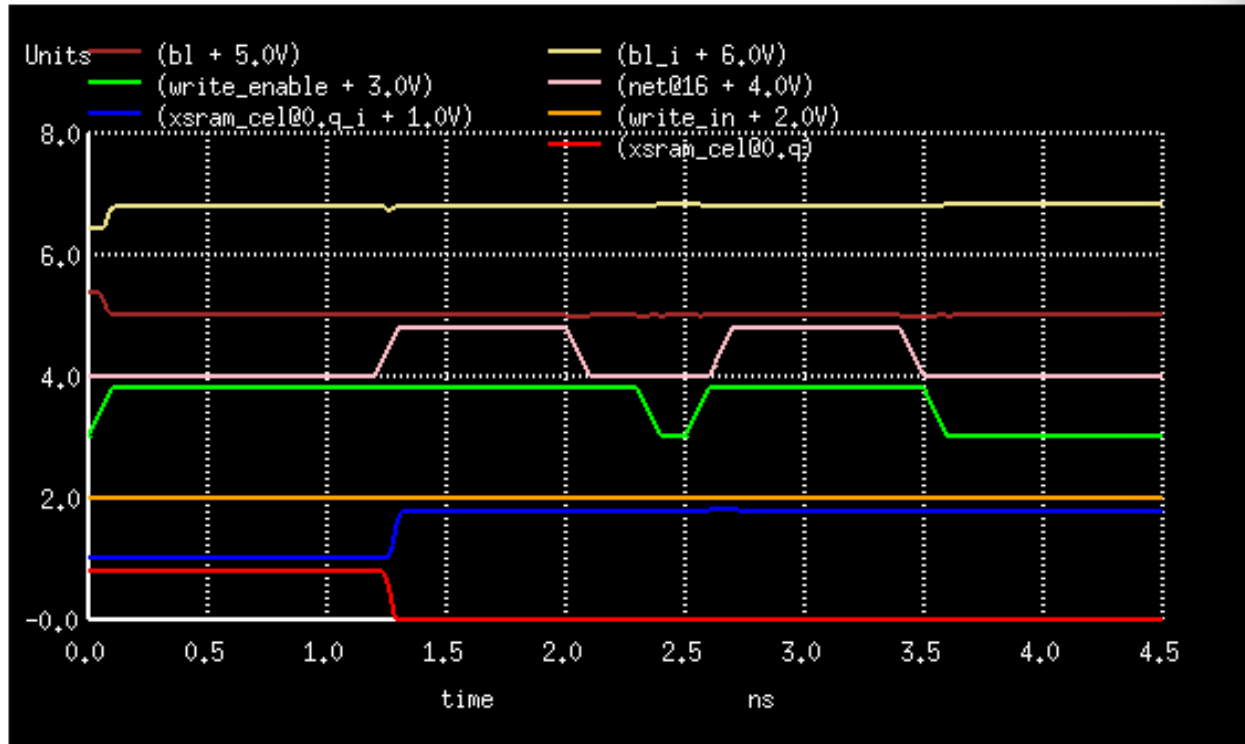

Figure 11: Writing 0, then writing 0
1. Writing a 0 to a cell with 0 (Figure 11). We first write a 0 by driving BL low and BL' high by driving write_enable high, and driving WL to high. We then write a 0 again using the same process. The Q and Q' signals inside the cell were verified to ensure that writes were being completed properly, even after write_enable was set low.